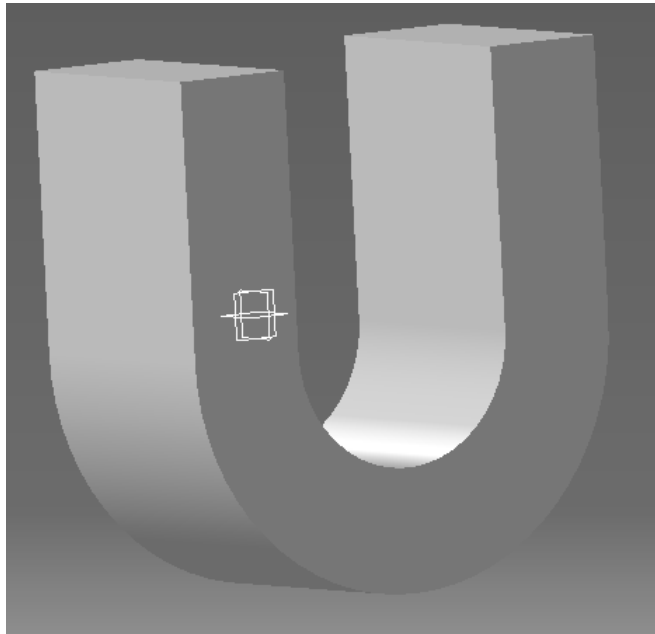

Figure 3.10
- 3.17 Create a 40mm radius Fillet on the bottom two edges of the part. Reference figure 3.10